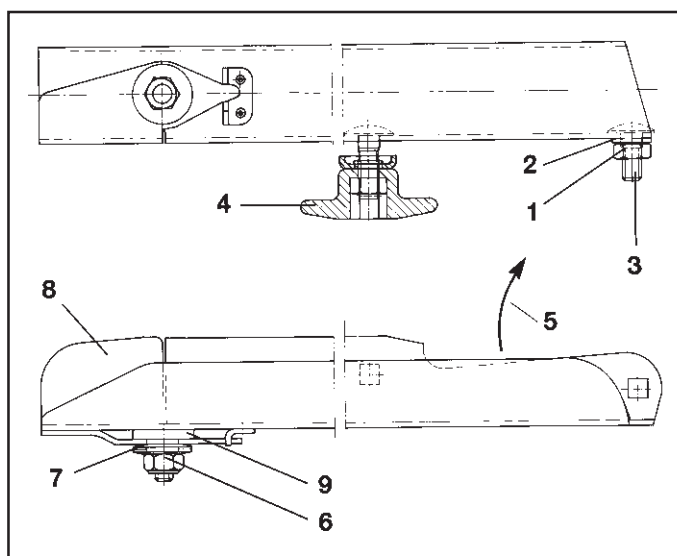

Fig. 9.6
- Slacken self-locking nut (Fig. 9.6/1).
- Remove washer (Fig. 9.6/2) and flat mushroom head bolt (Fig. 9.6/3).
- Slacken thumb nut (Fig. 9.6/4) and exchange spreading vanes.
- **Tighten the self locking nut (Fig. 9.6/1) in such a way, that the spreading vane can be swivelled by hand.**
Note the correct fitting of the spreading vanes. The open side of the U-shaped spreading vane shows into sense of rotation (Fig. 9.6/5).
- Slacken self locking nut (brass CuZn) (Fig. 9.6/6) and remove together with spring washers (Fig. 9.6/7).
- Exchange swivel blades (Fig. 9.6/8).
Mind plastic washer (Fig. 9.6/9) between spreading vane and swivel blade.
- Tighten self locking nut (Fig. 9.6/6) with a torque of **6 - 7 Nm**, so that the swivel blade can still be swivelled upwards by hand, however does not swivel up by itself during operation.